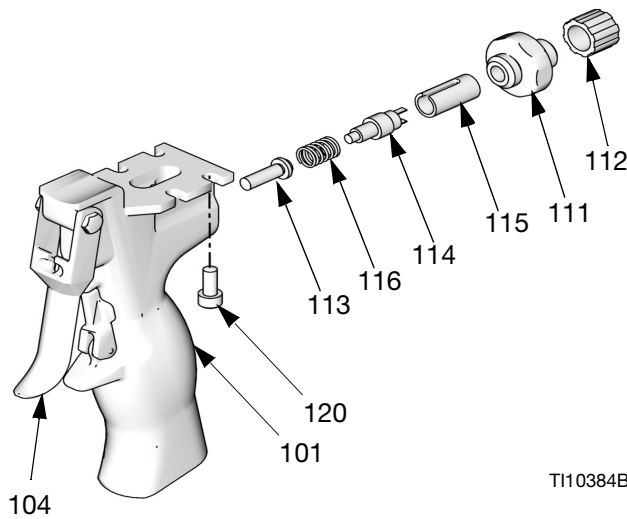

FIG. 10
1. Install the plunger (113) and spring (116). See FIG. 10.
2. Insert the switch assembly (255463) while routing the ground lug (108) through the hole in the top of the handle.
3. Torque plug (111) to 125-135 in-lb (14-15 N•m).
4. Tighten the strain relief (112).
5. Install the ground screw (110) through the lock washer (109) and ground lug (108). Torque to 15-20 in-lb (1.7-2.2 N•m).
6. Align the dispense valve on the top of the handle (101). Torque the four screws (120) evenly to 15-20 lb (1.7-2.2 N•m).